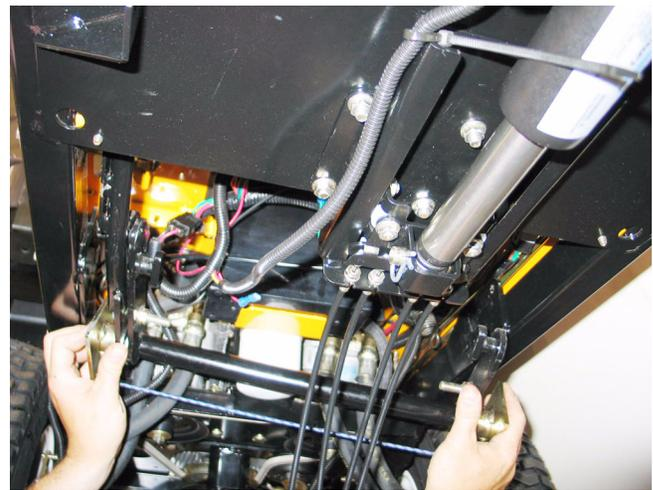

Figure 14.14
- 14.14. Carefully maneuver the lift shaft assembly out of the control housing, between the two frame channels. As it clears the frame, attach the shock cord between the two left hubs, holding the lift shaft assembly together. See Figure 14.14.